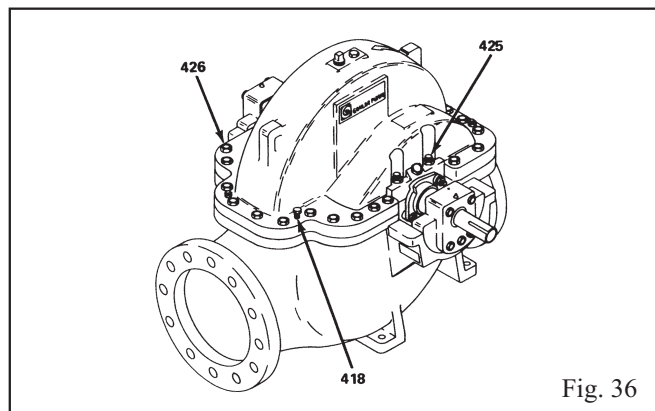

Fig. 36
- M Group L and XL – Tighten two jacking bolts (418) (Fig. 36) evenly until seal is broken.